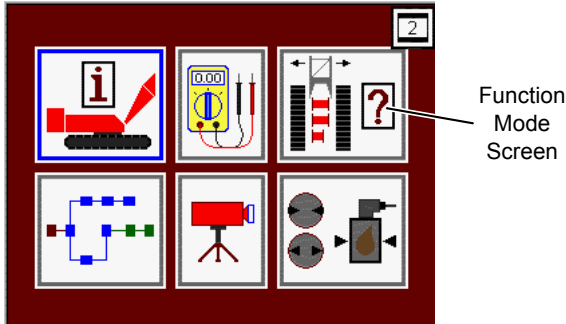

FIGURE 3-10
1. Enter the function mode screen in the main display (Figure 3-10).